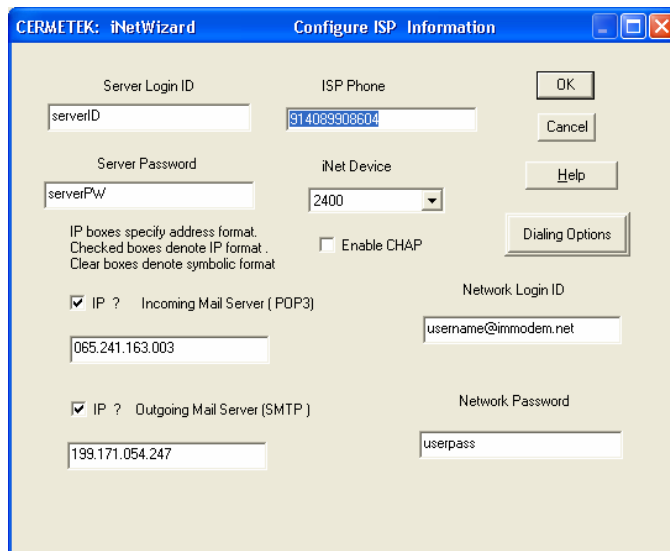

Figure 30. Configure ISP Information Data window per Example 5. ISP Phone number highlighted in preparation for character editing.
Step 3A. Prepare to edit the ISP PHONE number by highlighting the ISP PHONE number. See Figure 30. Do not enter <CR> after the required character edits as this will cause iNetWizard® to exit the CONFIGURE ISP (1) INFORMATION window after executing the specified change(s).